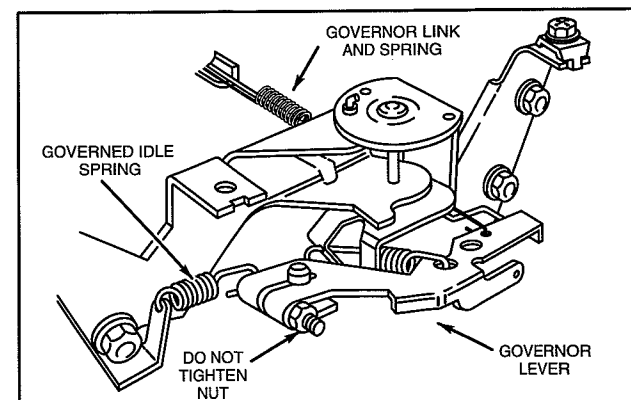

Fig. 15 – Install Governor Lever
5. Reassemble governor lever to shaft, Fig. 15.